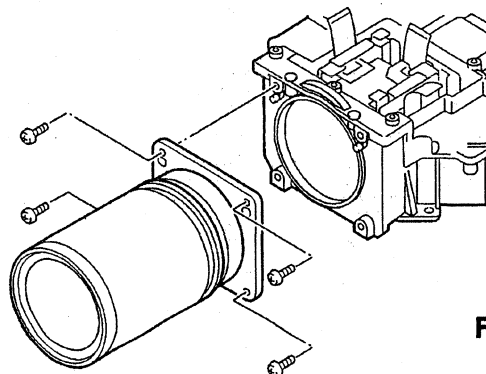

Fig.1
- 1) Slide the locking lever in the direction of the arrow by using slot screwdriver (Fig.1) and lift up the cover slightly.